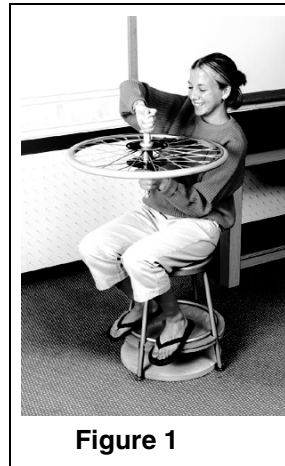

Figure 1
3. To rotate, place feet on the foot rungs or extend them out from the stool (See Figure 1).